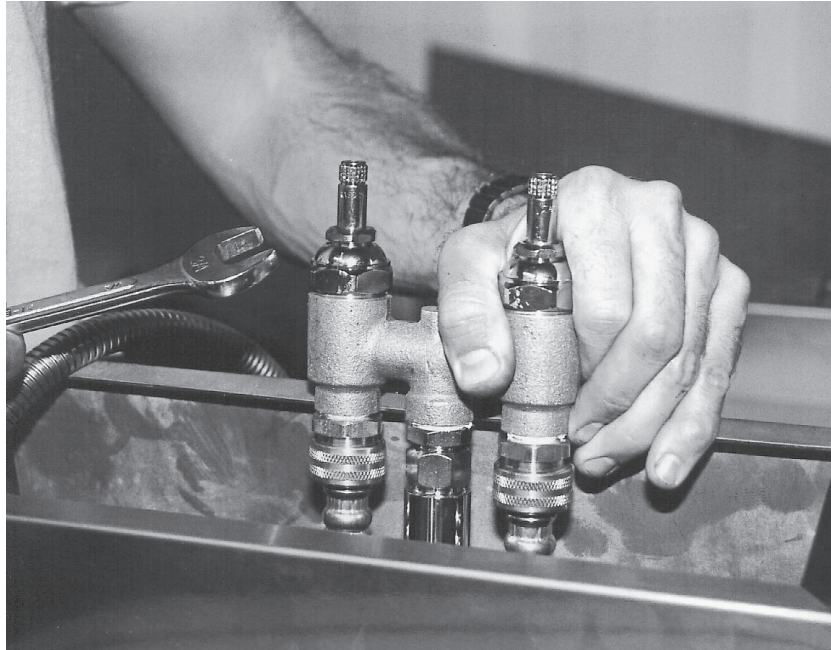

Fig. 55
7. To change fitting washer with an adjustable wrench remove the faucet stem and nut assembly from the cast iron body. (Fig. 55)